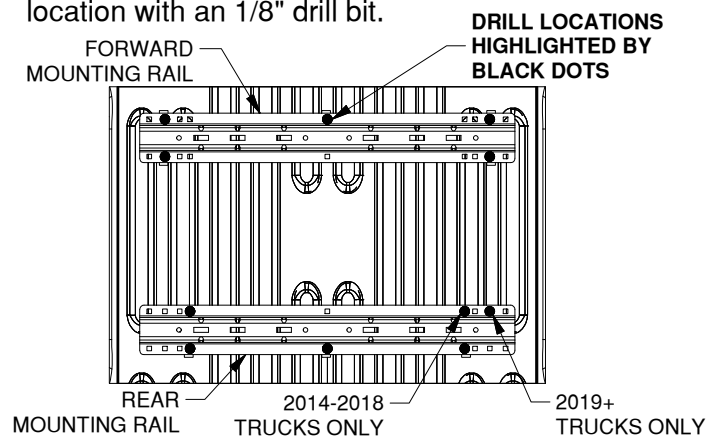

Figure A3: Detail view over bed, showing drill locations for the forward and rear mounting rails.
2. **Mark hole locations.** While carefully ensuring the mounting rail does not move, use a center punch tool to mark the 5 drill locations on the forward rail. See Figure A3 for hole marking locations for this installation (rear rails will install on a later step). Once all 5 forward rail locations are clearly marked, move the mounting rail out of the way and drill each location with an 1/8" drill bit.
2. **Drill rear rail mounting holes.** Using the same method as used for the forward mounting rail, mark and drill the 1/8" holes for the rear mounting rail. Refer to "DRILL FORWARD MOUNTING HOLES" section, Step 2, page 2. Notice that the hole locations are slightly different than the forward rail, see Figure A3 (on the second page).
2. **Drill rear rail mounting holes.** Using the same method as used for the forward mounting rail, mark and drill the 1/8" holes for the rear mounting rail. Refer to "DRILL FORWARD MOUNTING HOLES" section, Step 2, on page 2. Notice that the hole locations are slightly different than the forward rail, see Figure A3 (on the second page).